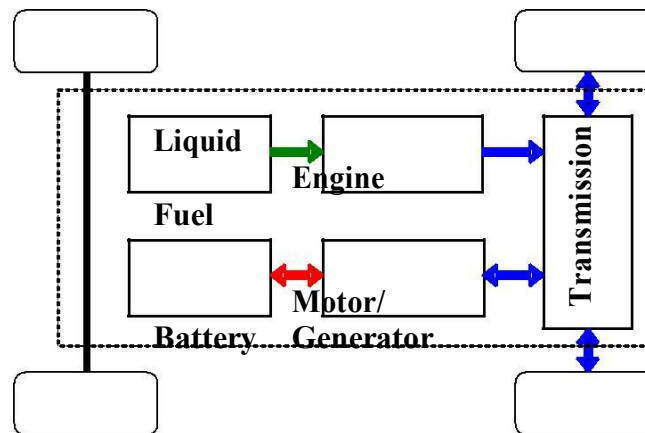

**Figure 3:** Schematic of a Series Hybrid powertrain
For vehicular applications, the ideal performance characteristic of a power plant is constant power output over the full speed range. Consequently, the torque varies hyperbolically with respect to speed as shown in **Figure 3**. This ideal performance characteristic of the power plant will ensure that the maximum power is available at any vehicle speed, thus resulting in optimal vehicle performance. In practice however, the torque is constrained to be constant at low speeds. This is done so as not to be over the maxima limited by the adhesion between the tyre-ground contact areas. The **internal combustion (IC)** engines are the most commonly used power plants for the land vehicles. In hybrid and electric vehicle technology, the **electric motor** is used.
- **Figure 3:** Ideal performance characteristics for a vehicle power plant
In a Series Hybrid there is a single path to power the wheels of the vehicle, but two energy sources. As shown in figure 3, the fuel tank feeds an engine which is coupled to a generator to charge the battery which provides electrical energy to a motor/generator to power the wheels through a transmission although a direct coupling can also be used. The motor/generator is also used to recharge the battery during deceleration and braking.
There are many possible EV configurations due the variations in electric propulsion and energy sources. Based on these variations, six alternatives are possible as shown in **Figure 3**. These six alternatives are